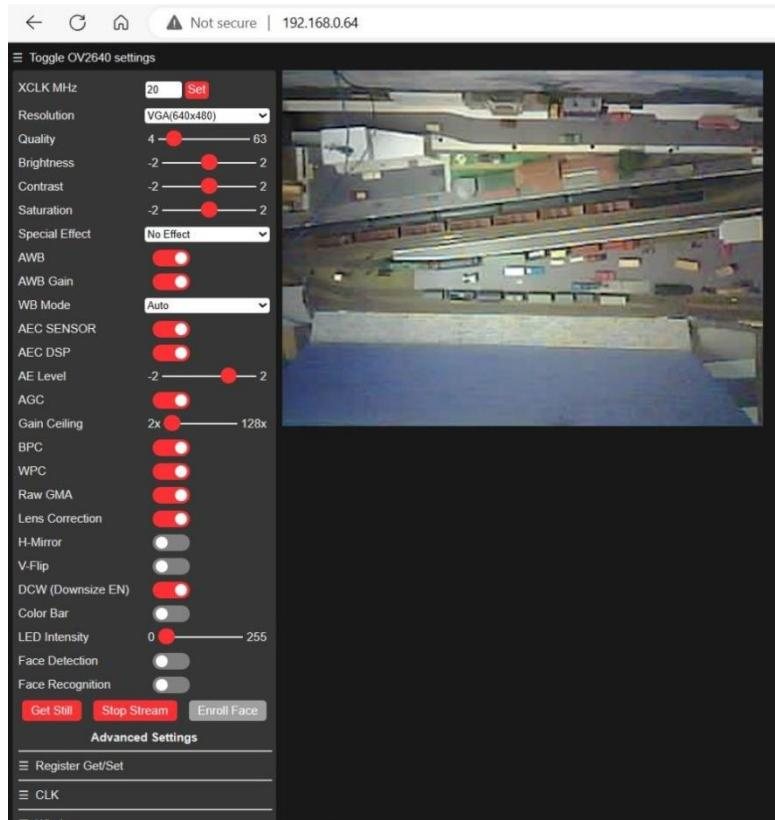

Figure 1. webCAM mode
Figure 1. is an example of the standard webCAM browser presentation. It is a very useful mode for alignment and as a training aid in investigating the effects of the many video adjustments possible, but does not allow placement of sensors as sensorCAM mode can't be simultaneously enabled.
5.6 The CAM can be switched to WiFi video mode with the '**v1**' command. '**v2**' will select an alternate WiFi network. ('v' will give sensorCAM software version). '**v1**' (or '**v2**') will reboot and load WiFi mode connecting to the network selected, and providing a URL e.g. <http://192.168.0.xx> that can be used to connect with a browser. An image, like **Figure 1** above, should be seen with controls for experimenting with Brightness etc. This image is educational but not necessarily a good indication of the sensorCAM (sensor mode) image because of the unpredictable parameter effects. To see a more reliable image run the PROCESSING 4 *SensorCAM.pde* monitor instead of Arduino IDE monitor (refer Section 6.). To exit video mode, try the monitor command 'R' (or 'F') If this